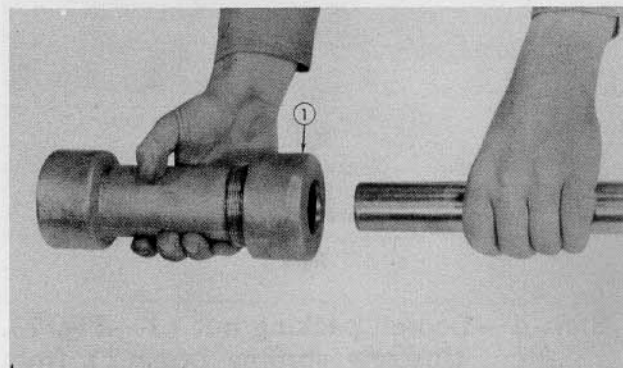

Fig. 13
Step 11—Slide stuffing box assembly (1—Fig. 13) over piston end of shaft. Be careful not to damage packing.